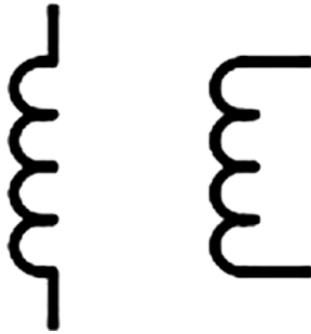

Figure 3-13. Inductor schematic symbols
The Henry (H) is used to measure inductance. The nanohenry, microhenry, and millihenry are the most commonly encountered units. Figure 3-13 shows the inductor schematic symbols.